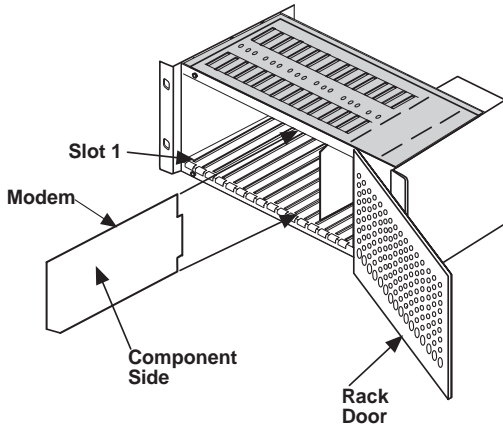

Figure 2-1. Modem Installation
8. Slide a modem into one of the 16 available slots. The component side of the card should be to the right as in Figure 2-1. The modem's gold edge connector will mate with the rack's backplane. The edge connector is offset vertically so the modem cannot be inserted upside down.